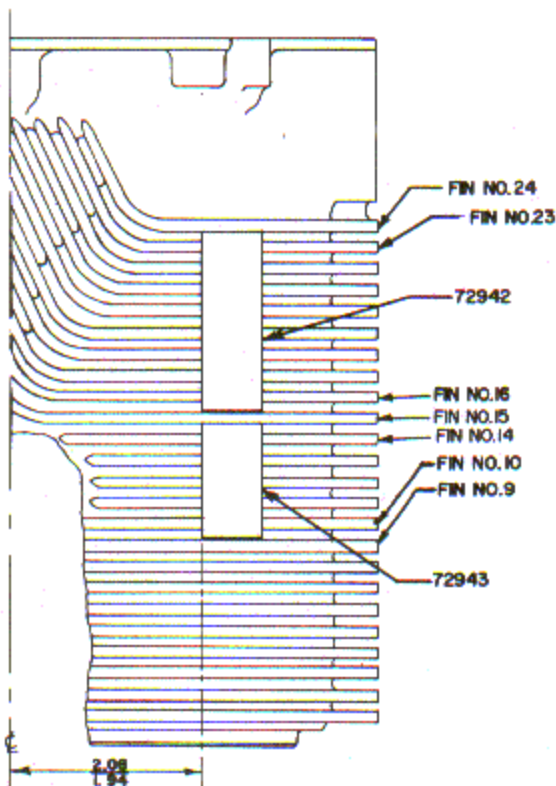

Figure 6-1. Stabilizers IO-540-B1A5
- d. One stabilizer (Lyc. P/N 72943) is installed on the intake side of cylinder, between No. 9 and No. 10 fins, 2.06/1.94 inches from the centerline of the head and ends between No. 14 and No. 15 fins. (Figure 6-1)